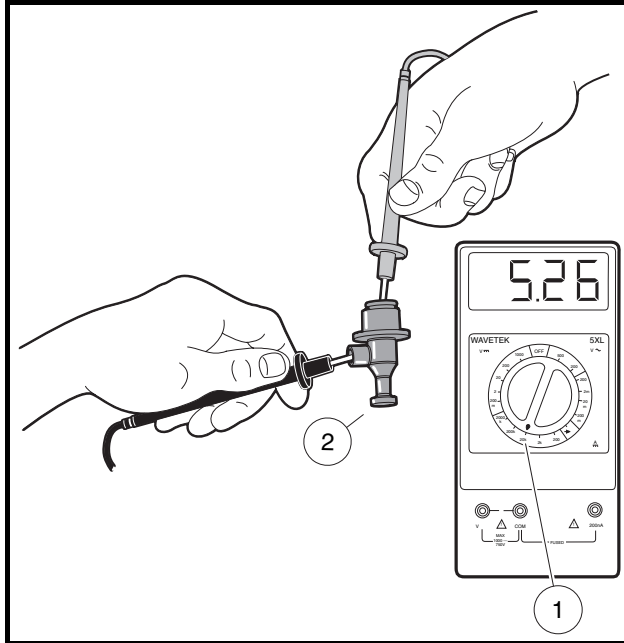

Figure 12-23 Spark Plug Cap Test
- 4.3. Using a multimeter set to 20k ohms, place the red (+) probe of the multimeter into the end of the spark plug cap that normally connects to the spark plug and place the black (-) probe into the end of the cap with the internal screw (**Figure 12-23, Page 12-24**). If the resistance is not between 4.5k - 6.0k ohms, the cap has failed and must be replaced. Proceed to the next step with the spark plug cap still removed.